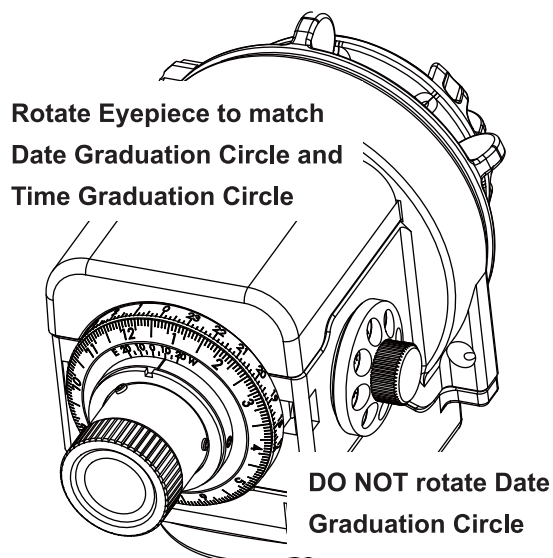

Fig 30
5. Then match the **Date Graduation Circle** with your observing time by turning eyepiece or mount. Please **DO NOT** rotate **Date Graduation Circle** directly at this step. For example, if your observing date is March 4 and time is 8:00PM. (Fig 30)